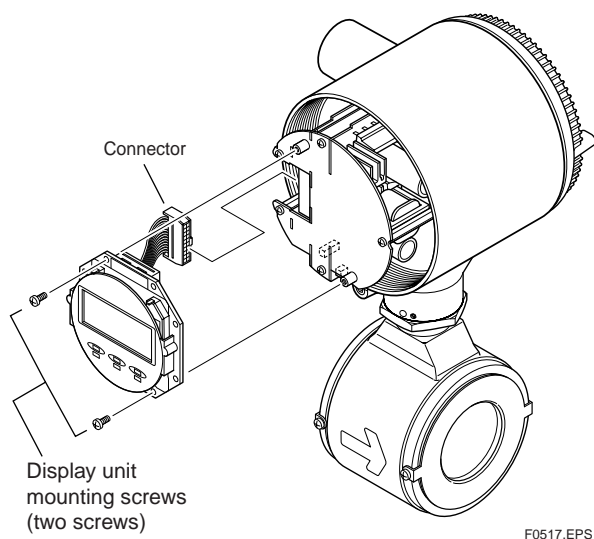

Figure 5.2.3 Removing and Assembling the Display Unit
- (3) Hold the display unit with your hand and remove the two mounting screws. Remove the connector of the display unit by pulling it to the left, taking care not to damage it (refer to Figure 5.2.3).
- (1) Reconnect the keyed display connector according to figure 5.2.3.
- (2) Secure the display unit using its two mounting screws.
- (3) Replace the cover by following the procedures used to remove it in the reverse order.